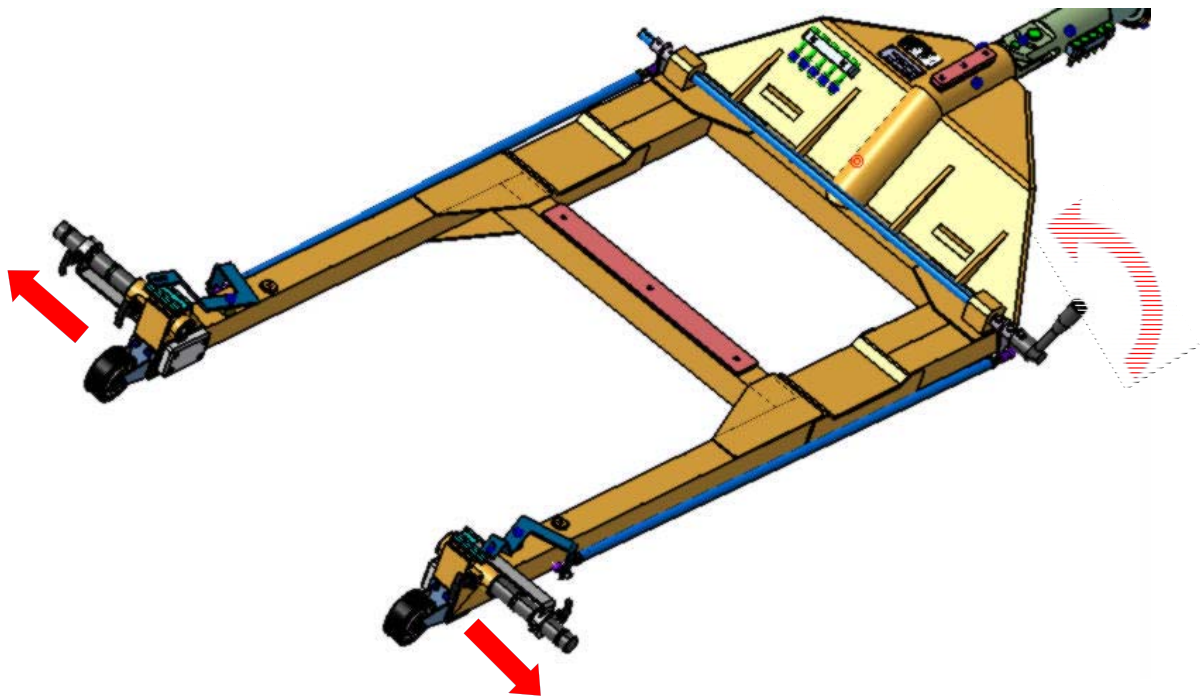

Figure 23: Tow Bar Assy, handle rotation
4. Rotate the handle located on the right side of the tow bar assy until the inner end of the coupling pins are flush with the structure of tow bar assy, this avoids possible interference with the PAD / SKI (see Figure 23).